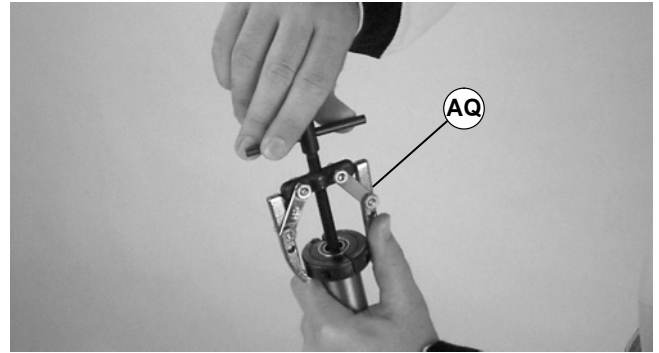

Figure 27
3. Using a puller (AQ of Figure 27), remove and discard bearing(s).